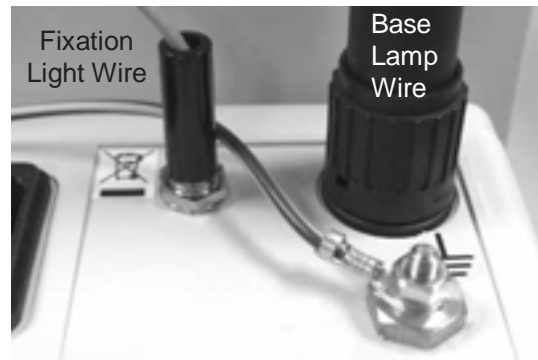

Figure 5 Connections
8. Attach the Fixation Light Wire from the Chin Rest Assembly into the connector on the back of the Power Supply Assembly. Refer to Figure 5.
12. Attach the Base Lamp Wire to the back of the Power Supply Assembly. Refer to Figure 5.